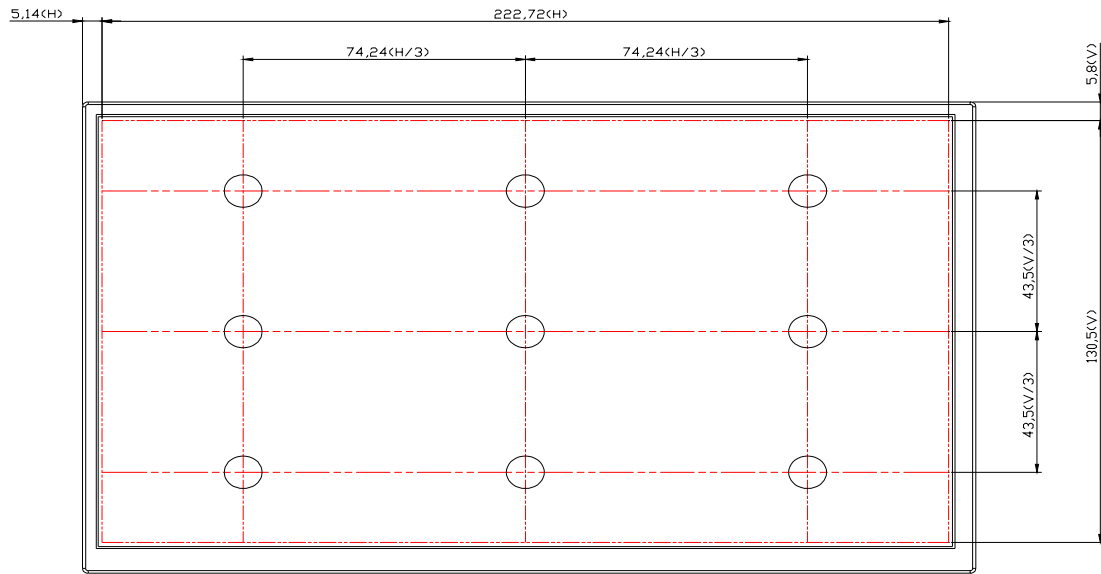

Fig8-1 Measuring point
3) Definition of luminance : Measure white luminance on the point 5 as figure8-1
Definition of Luminance Uniformity: Measure white luminance on the point1~9 as figure8-1